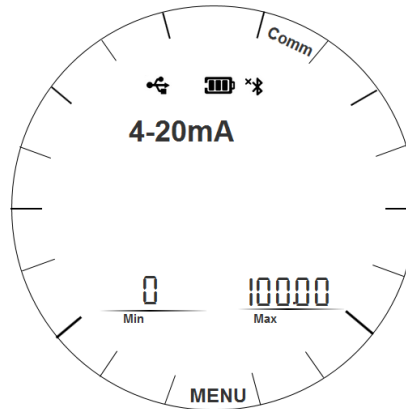

Figure19. 4-20mA ranges setting interface
1. When the 4-20mA module is enabled, the range setting interface is shown in Figure 19. The sub display area provides the setting of the upper and lower limits of the range, and the unit is same as the main display unit of the gauge.